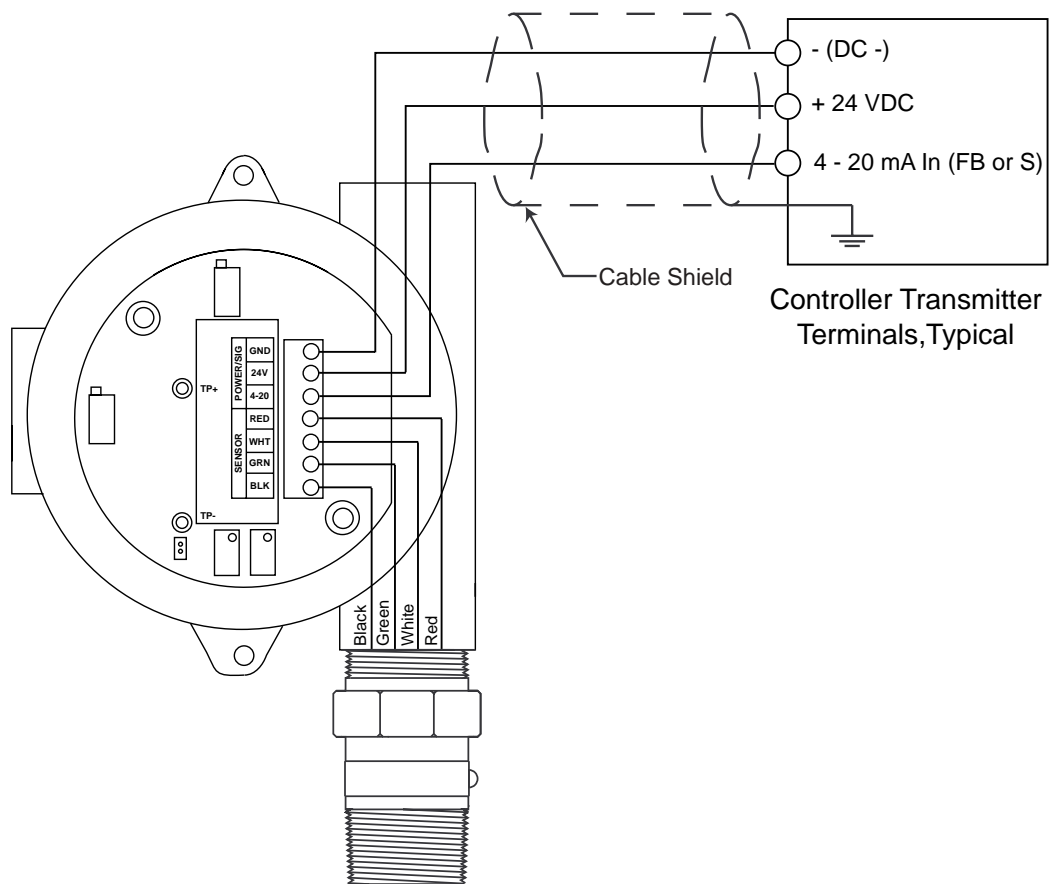

Figure 3: Wiring the Combustible Gas Transmitter to a Controller
4. Verify that the detector leads are wired to the amplifier's interconnect terminal strip. If necessary, connect the detector leads to the interconnect terminal strip as shown in Figure 3.
6. Connect the three wires to the interconnect terminal strip as follows (see Figure 3).
- Connect the feedback wire to the **4-20 (FB)** terminal.
9. Connect the wires to the applicable transmitter terminal strip at the controller as shown in Figure 3 below.
7. Connect the detector leads to the interconnect terminal strip as shown in Table 3 below and Figure 3 on page 9 of this manual.
10. Reconnect the wiring that connects the controller to the combustible gas transmitter at the amplifier's interconnect terminal strip as shown in Table 4 below and Figure 3 on page 9 of this manual.